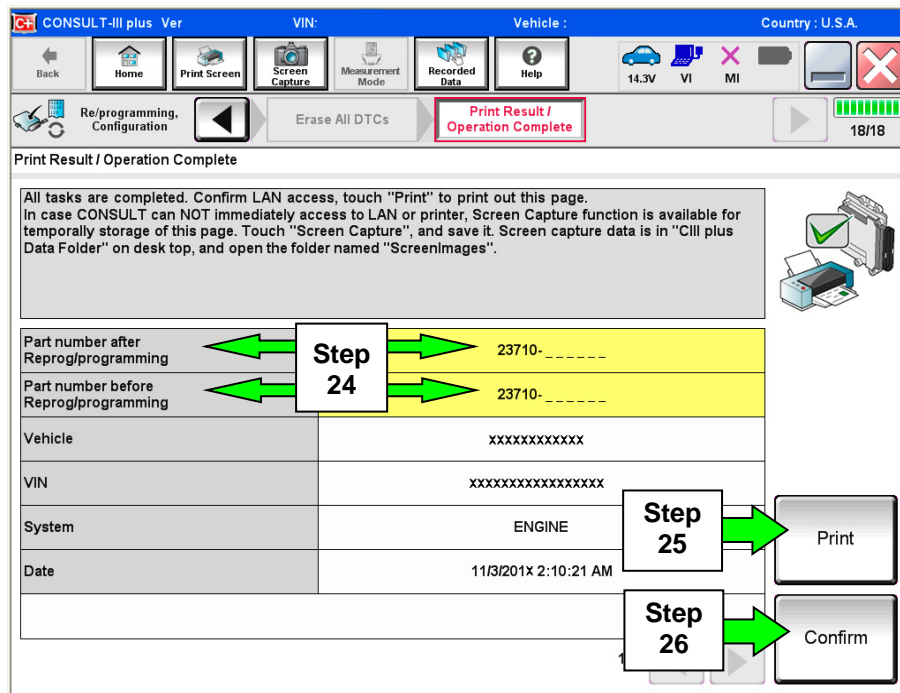

Figure 18
23. When the entire reprogramming process is complete, the screen in Figure 18 will display.
25. Print a copy of this screen (Figure 18) and attach it to the repair order for warranty documentation.